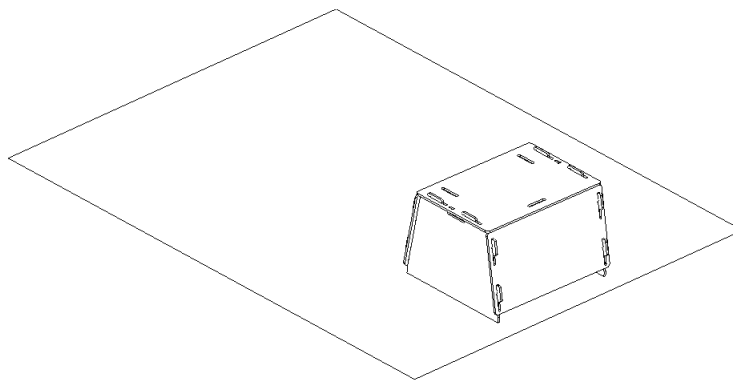

Figure 215: Scanner stand resting on the sheet.
2. Align the scanner stand with the rectangle marked on the sheet, paying close attention to the orientation of the slots in the stand cover (see Figure 215).